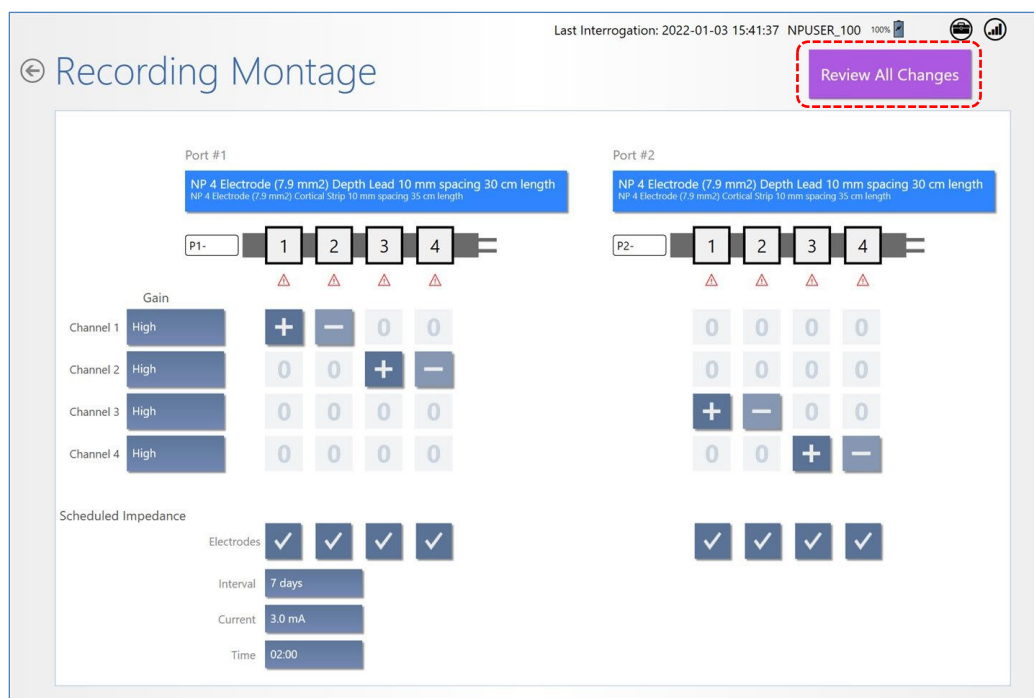
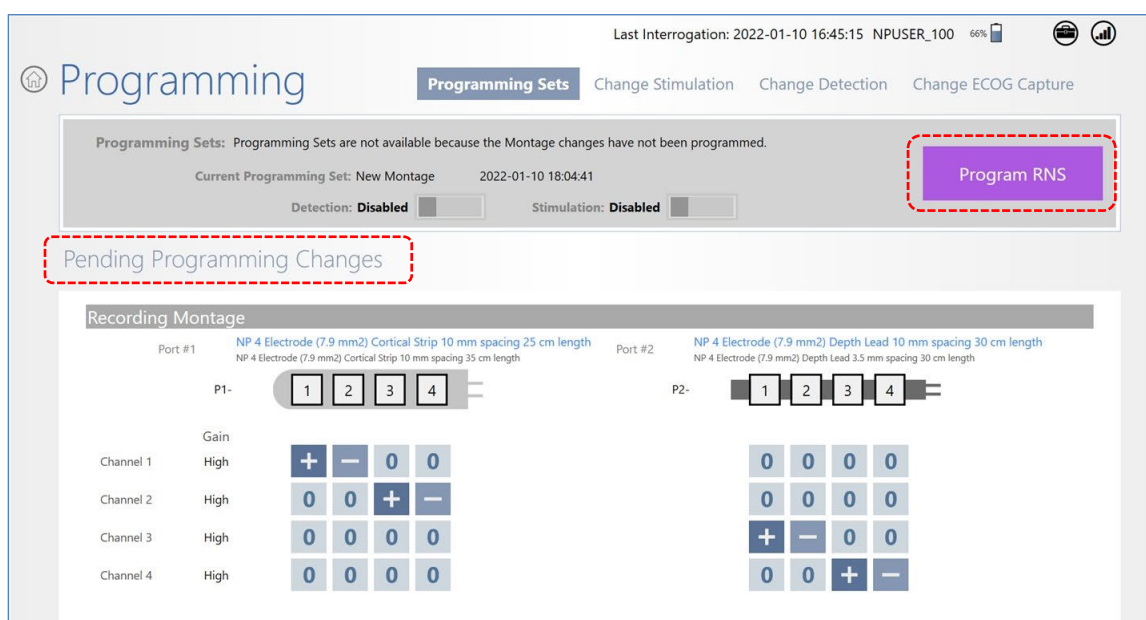

Figure 28 Recommended initial montage settings
Figure 29 Pending Programming Changes for montage
7. Select **REVIEW ALL CHANGES** at upper right (**Figure 28**). All **PENDING PROGRAMMING CHANGES** appear on the **PROGRAMMING SETS** screen (**Figure 29**) for your review before programming. Scroll down if necessary to see all the changes.